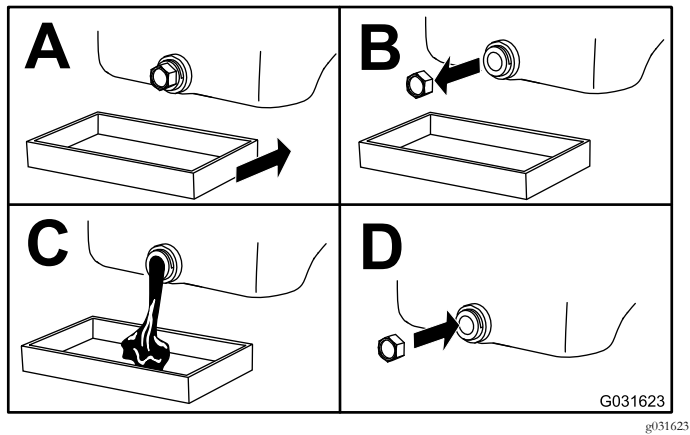

Figure 38
3. Change the oil (Figure 38).